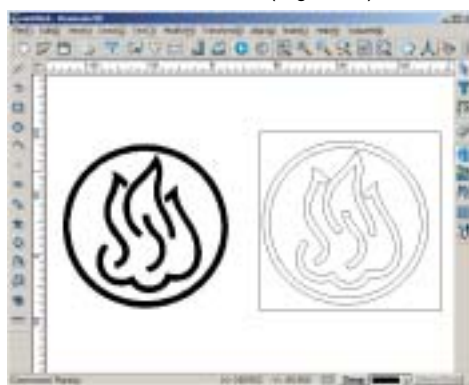

Fig. 9-15
4. Wait for a moment, and then the effect is shown. (Fig. 9-15)